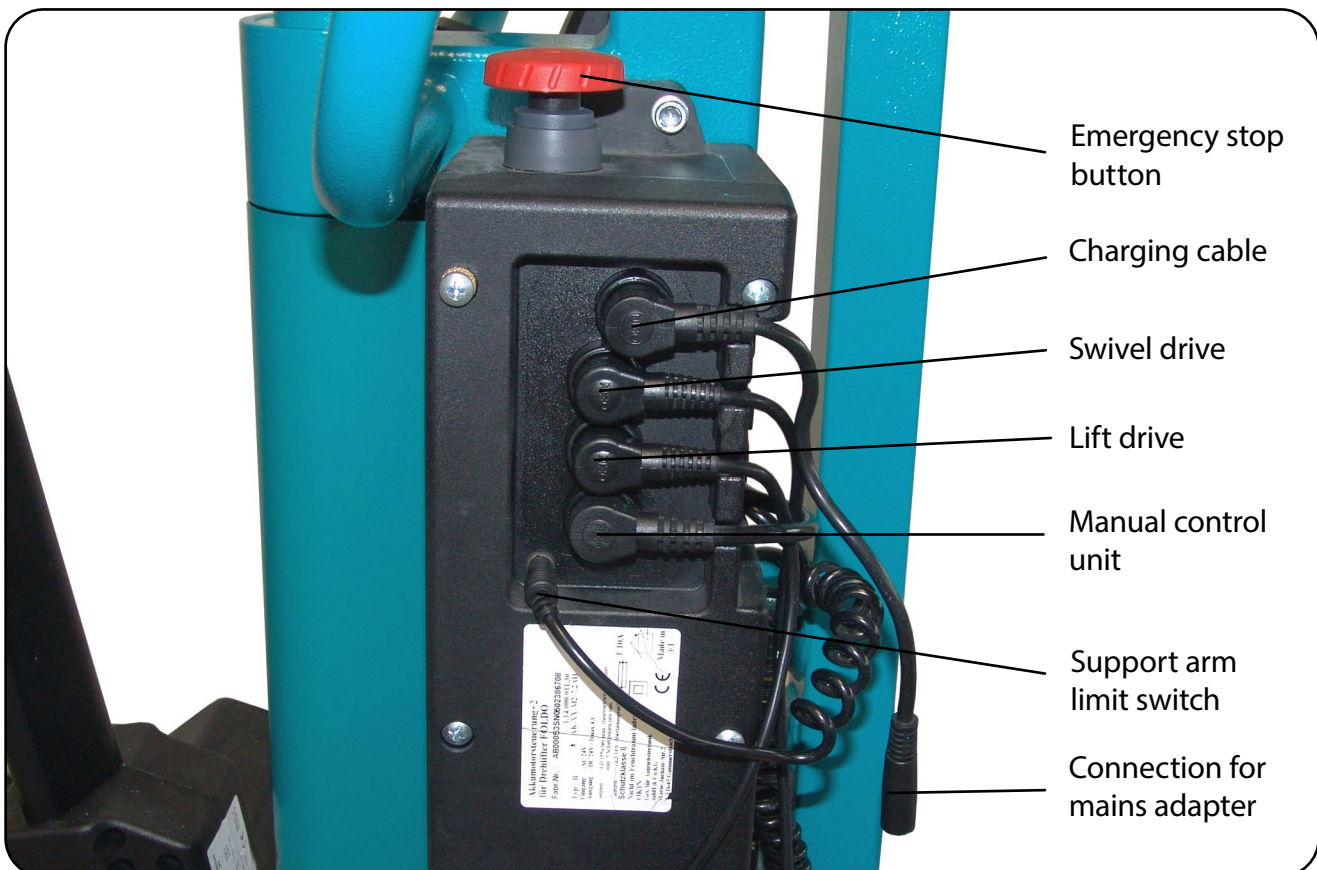

Fig. 7.01 – Control unit
1. Check the connections to the patient hoist's control unit (Fig. 7.01).
3. Unlock the emergency stop button (Fig. 7.01) – if it has been pressed – by turning it clockwise (arrow direction); (see chapter on Operation, section **Emergency stop button**).